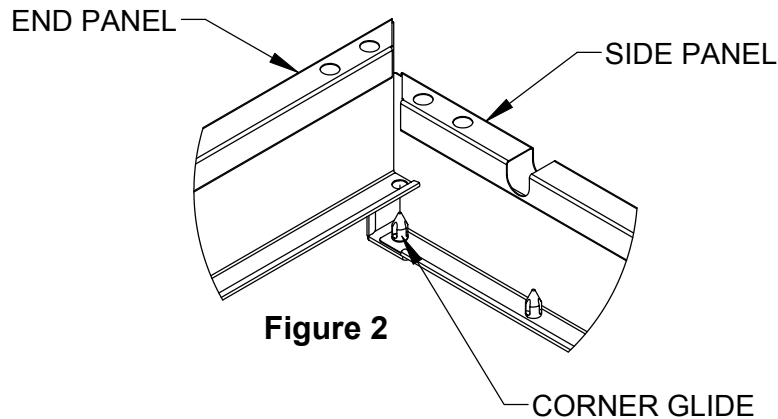

Figure 2
- Step 3:** Turn SIDE PANELS so that flange with (3) slots is facing up and panels are facing each other with finished side out. Align the end hole in the bottom flange of the END PANEL with the post on the CORNER GLIDE as shown in Figure 2 and loosely assemble. Repeat on all four corners.